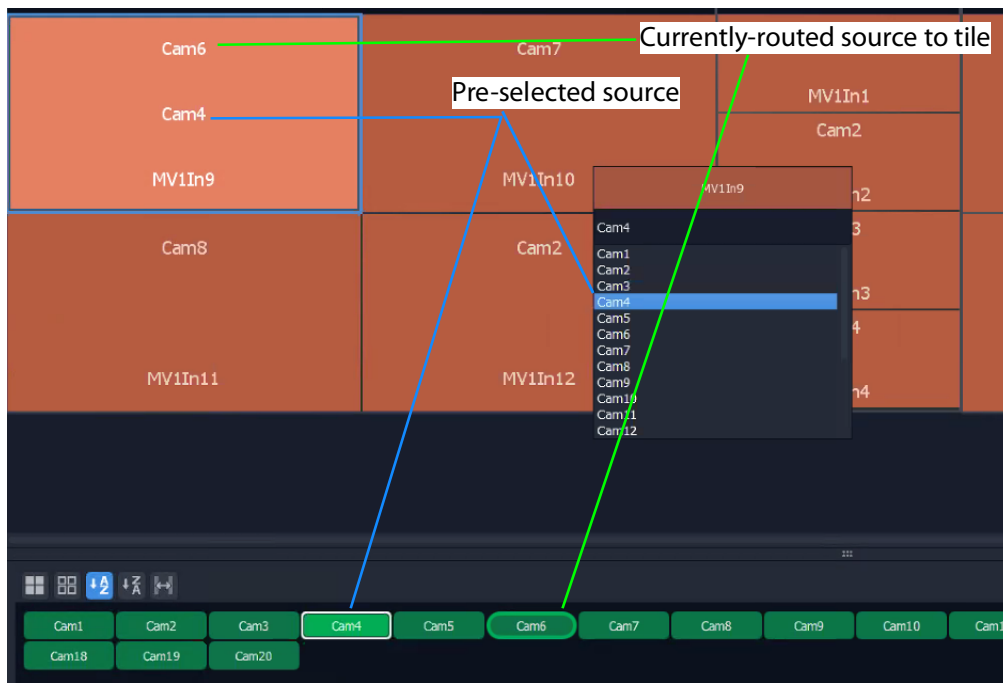

Fig. 14-86: Select Source
- 3 To pre-select a source to be routed and make the route (see Figure 14-86), either: